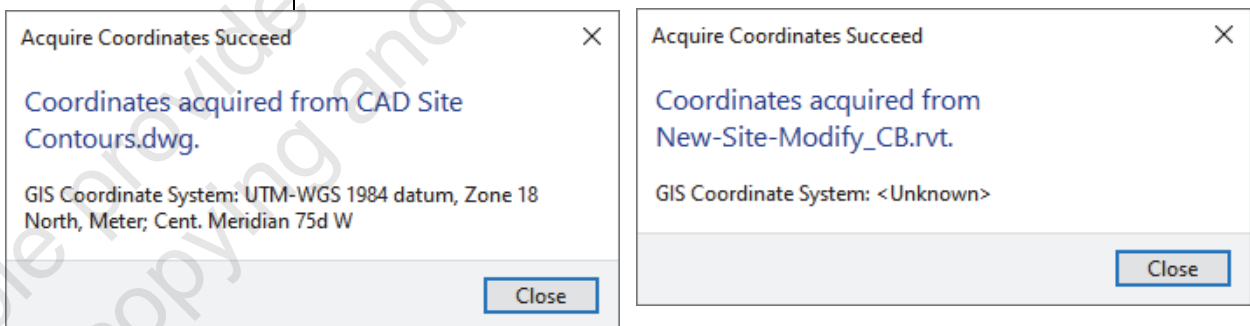

Figure 1–36
- You will get an Acquire Coordinates Succeed dialog box specifying the name of the file you acquired from, as shown in Figure 1–36 for both a .DWG file and a .RVT file.